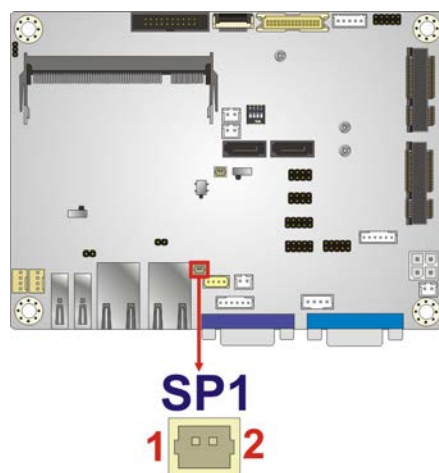

Figure 3-5: Buzzer Connector Location
- CN Location:** See **Figure 3-5**